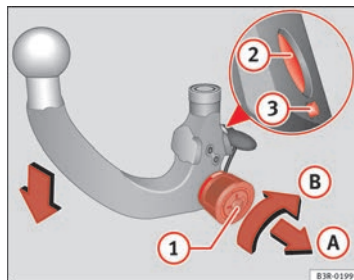

Fig. 166 Removable towing bracket: Setting the spring mechanism to the "ready" position
- Insert the key **1** ⇒ page 205, fig. 166 in the lock on the knob and turn it towards the red marking.